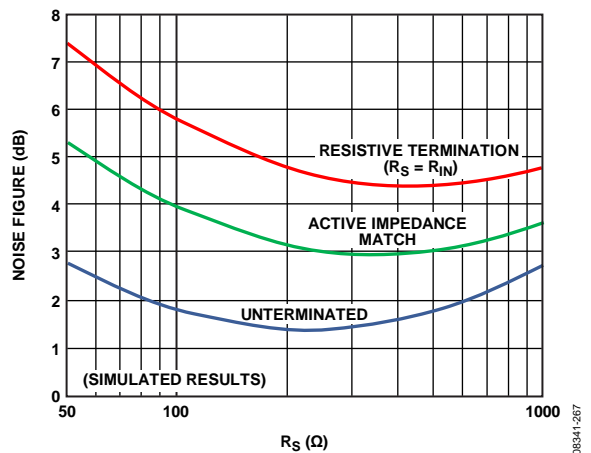

Figure 62. Noise Figure vs. R_S for Resistive, Active Match, and Untermated Inputs
The primary purpose of input impedance matching is to optimize the input signal power transfer. With resistive termination, the input noise increases due to the thermal noise of the terminating resistor and the increased contribution of the input voltage noise generator of the LNA. With active impedance matching, however, the contributions of both are smaller than they would be for resistive termination by a factor of $1/(1 + \frac{1}{2} \text{LNA Gain})$. The noise figure (NF) for the three terminating schemes are shown in Figure 62.